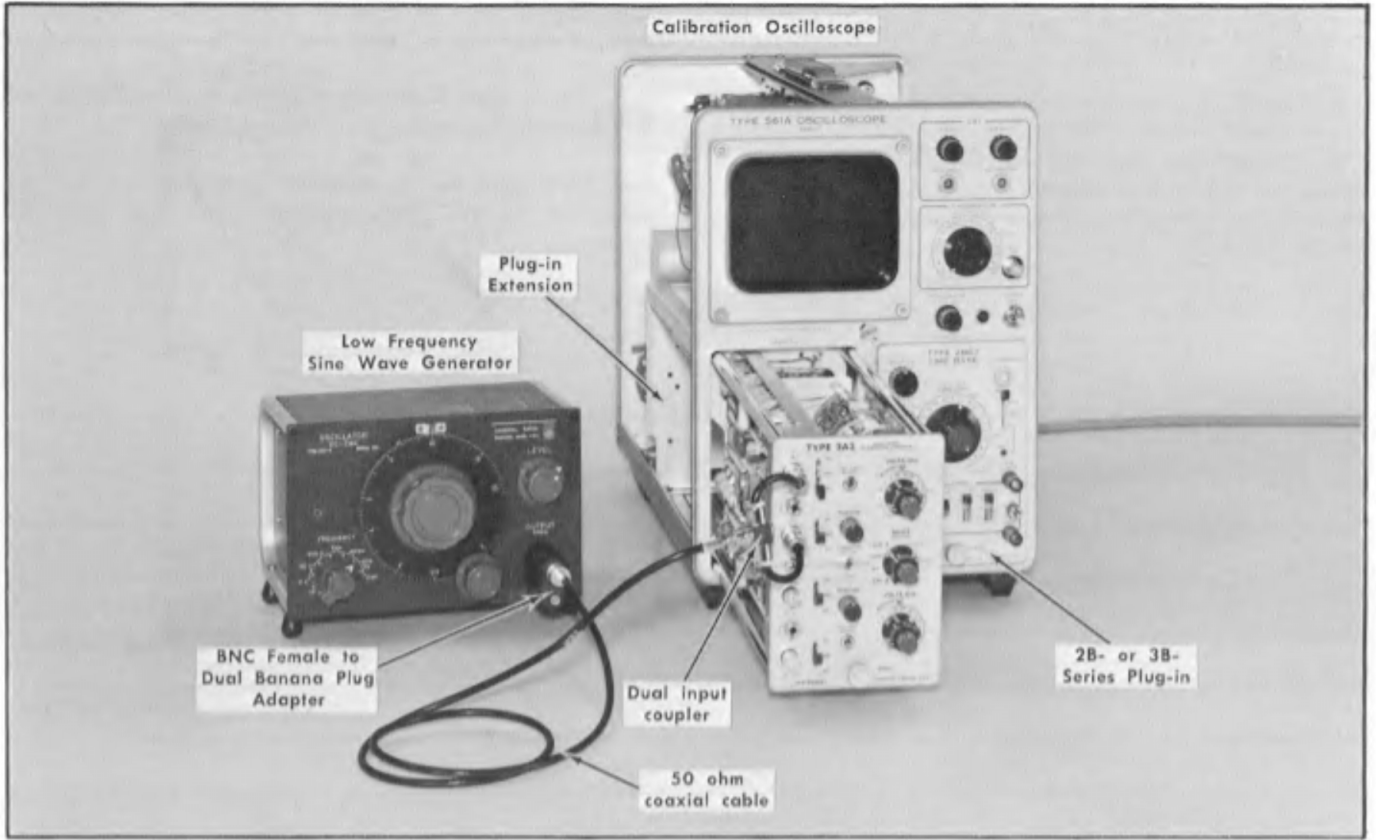

Fig. 6-15. Initial test equipment setup for steps 24 through 27.
- Test equipment setup is shown in Fig. 6-15.